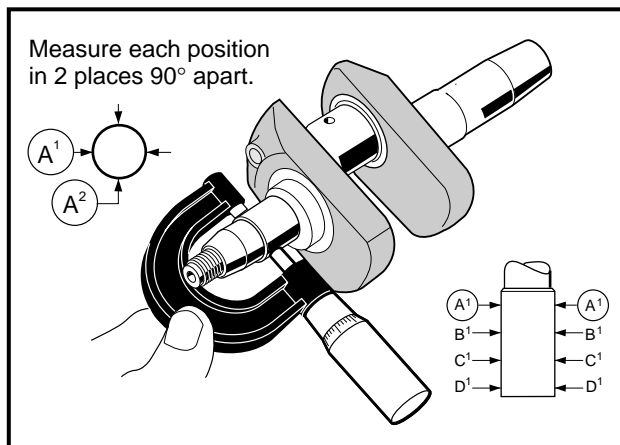

Figure 13-84 Measure Main Journals
2. Using a micrometer, measure both main journals (PTO side and flywheel side) at several points along their lengths (**Figure 13-84, Page 13-38**).